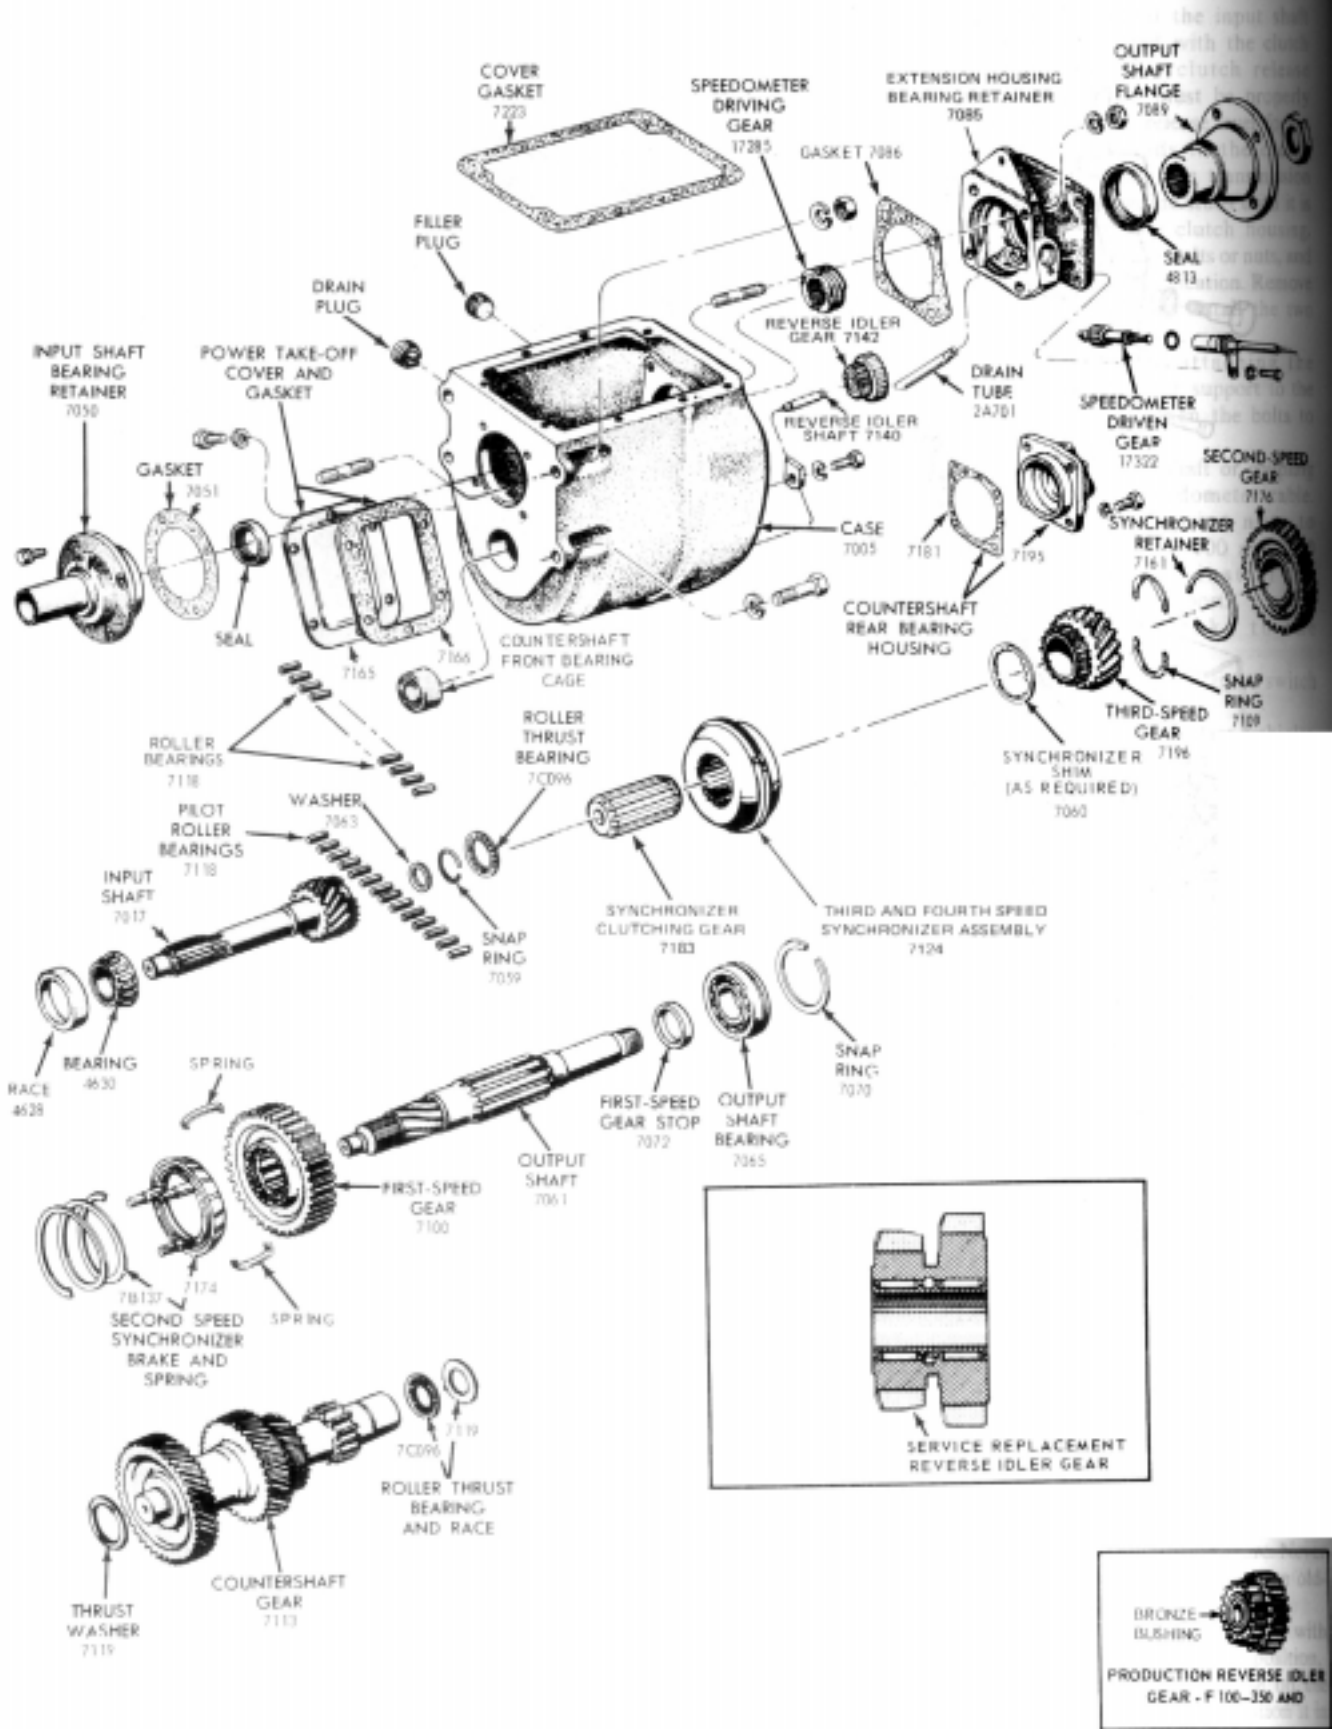

FIG. 5 Transmission Disassembled—F-100-350, P-500
6. Rotate the input gear as required to align the notch in the input gear clutch teeth with the countershaft drive gear teeth. Remove the input gear and tapered roller bearing from the transmission (Fig. 5 and 6).
Pull the input shaft seal (Fig. 5) with Tool T58L-101-A and slide hammer T50T-100-A.
On the F-100—F-350 and P-500 trucks and idler gear and an integral bronze bushing are used (Fig. 5). For service replacement of the reverse idler gear on these models, the gear and roller bearings are to be used as on other models. The service reverse idler gear and bearings are serviced only as an assembly. Once the bearing lock ring snaps into place, it cannot be removed without destroying either the gear or the bearing.